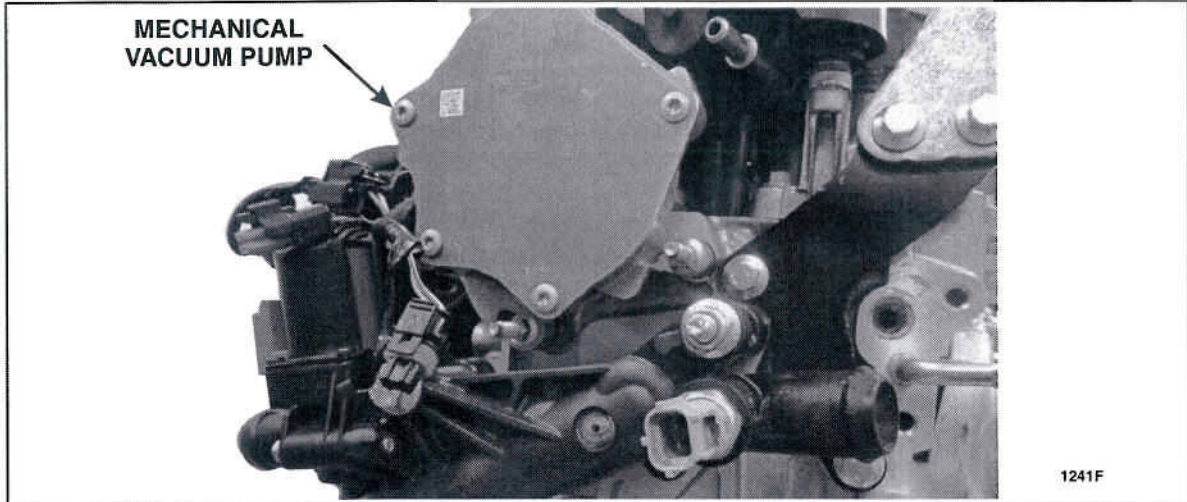

FIGURE 7
17. Inspect the mechanical vacuum pump mounted at the rear of the cylinder head and its surrounding area for oil leaks. See Figure 7.